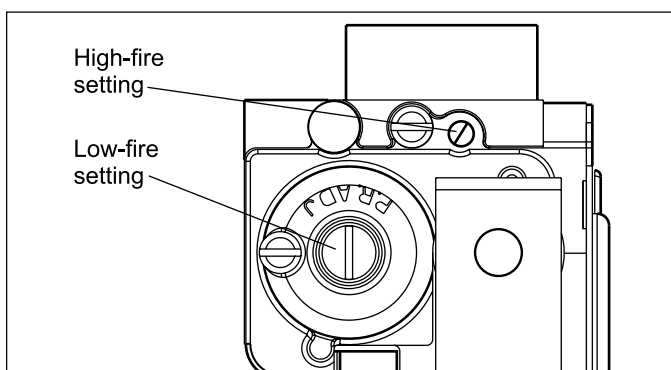

Figure 26. Adjustment Screws.
6. Remove lower cover to access gas valve and adjust as needed. Begin by adjusting the maximum input CO2 then continue by adjusting the minimum input CO2. Any high fire adjustment may affect low fire settings. Screws for adjustment are shown in Figure 26.